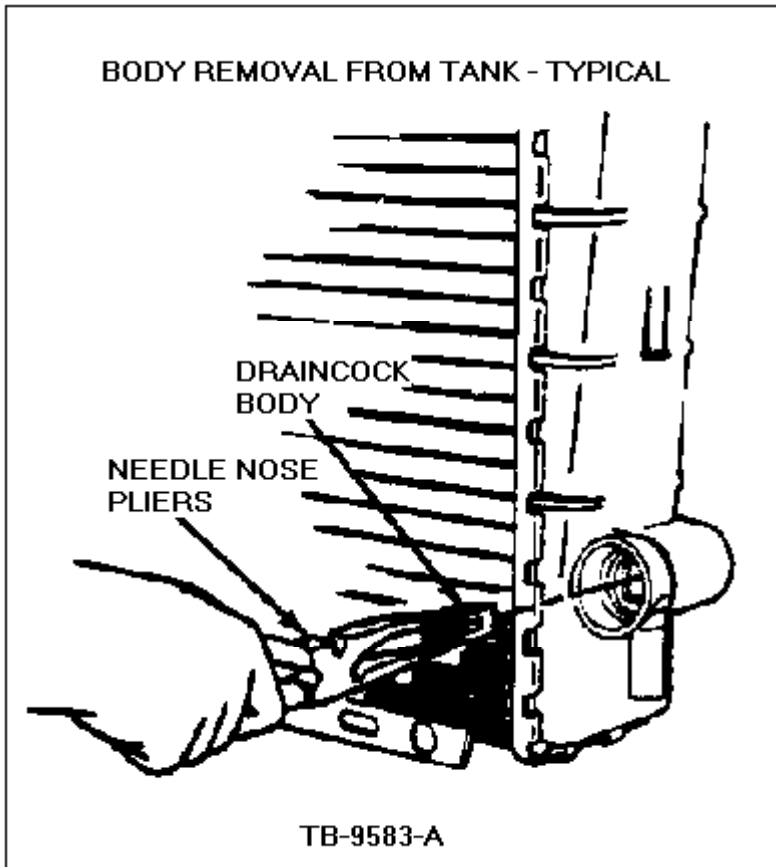

Figure 14 - Article 90-5-16
2. Remove the body from the radiator tank by squeezing the sides together with a pair of needlenose pliers, Figure 14. Then, pull the body from the inlet tank.